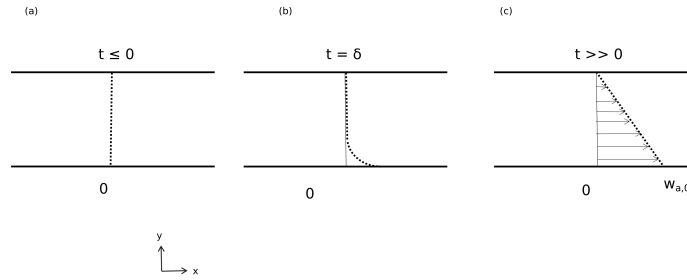

Figure 1.6: Helium diffusion across a silica slab
- Consider a silica slab. This silica slab can absorb helium, but not air. One end of this slab is at  $y = 0$  and the other at  $y = Y$  as shown in figure 1.6. We are going to introduce some helium into this system eventually. We assume this slab is infinitely long and wide. The system is at equilibrium with air and there are no concentration gradients anywhere. Figure 1.6(a) shows how the concentration of helium is initially uniform at 0 every point between the two ends of silica.